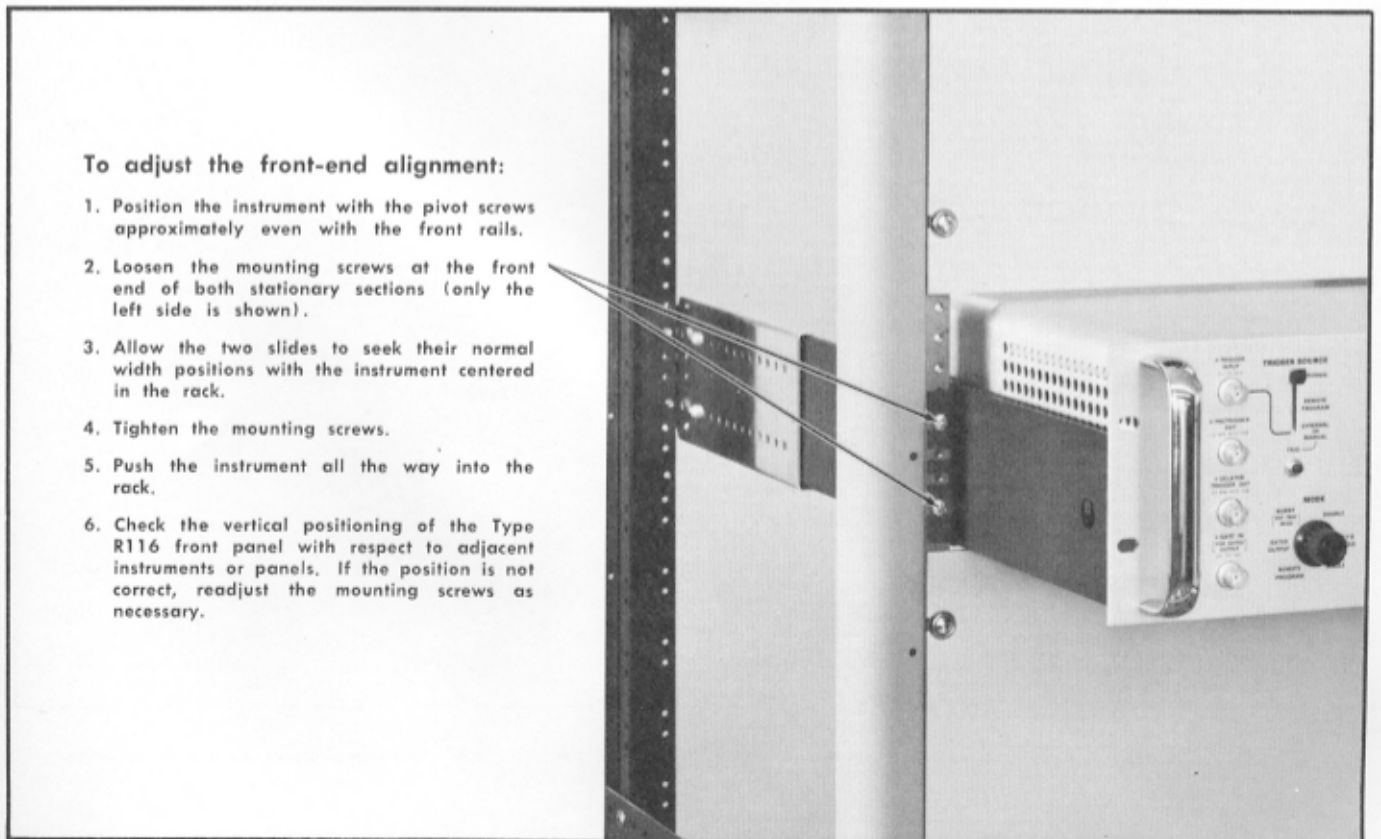

Fig. 11-7. Stationary section front-end adjustments.
1. Position the instrument as shown in Fig. 11-7.
2. Adjust the front ends of the stationary sections according to the procedure outlined in Fig. 11-7.